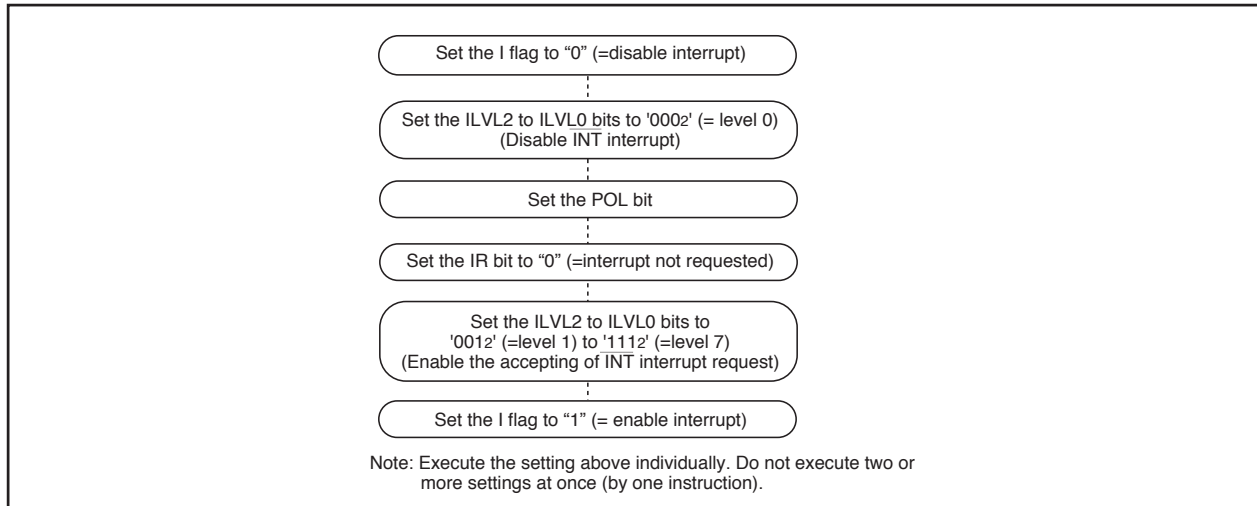

Figure 1.9.12. Switching Procedure for  $\overline{\text{INT}}$  Interrupt Request
- When the polarity of the  $\overline{\text{INT}}_0$  to  $\overline{\text{INT}}_3$  pins is changed, the IR bit is sometimes set to “1” (=interrupt requested). After changing the polarity, set the IR bit to “0” (=interrupt not requested). Figure 1.9.12 shows the procedure for changing the  $\overline{\text{INT}}$  interrupt generate factor.